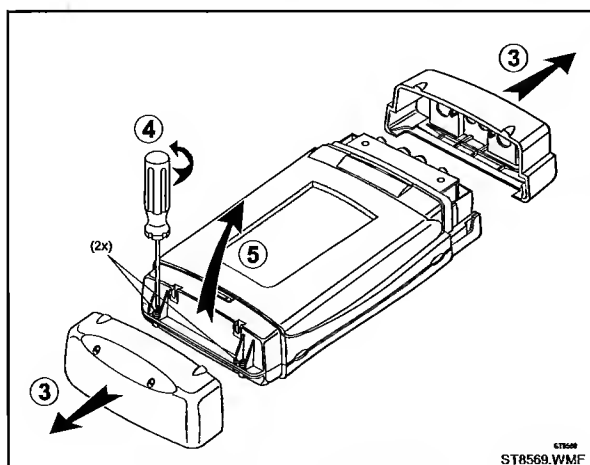

Figure 6-3. Opening the Test Tool
3. Pull off the input cover and the bottom holster (Figure 6-3).